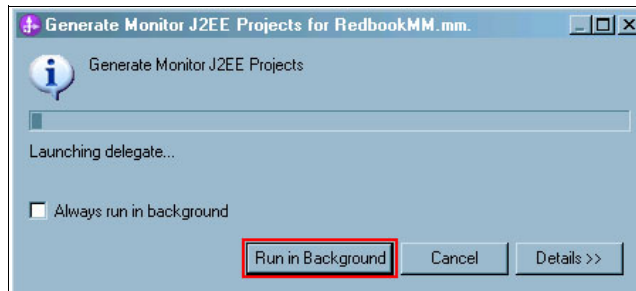

Figure 8-80 Generate projects, part 2 of 2
6. If you want to continue working, you can click **Run In Background** and use the **Progress** button to check. See Figure 8-80.